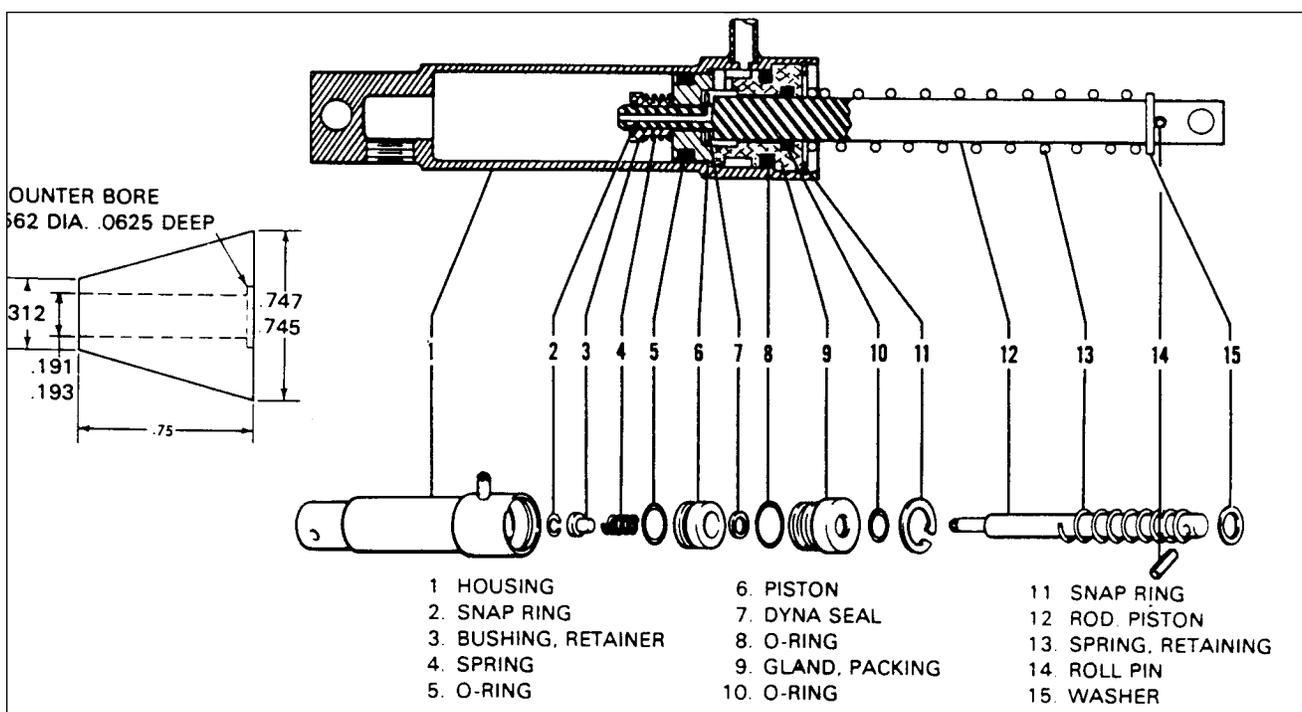

Figure 32-14. Brake Master Cylinder (Hand/Parking Brake)
1. Install new O-ring on inside and outside of packing gland and on outside of piston. (When installing teflon O-ring on piston, it is recommended that it be installed with use of a cone placed against piston. Construct cone of plastic or metal with dimensions shown in figure 32-14.
**INSTALLATION OF BRAKE CYLINDER (TOE BRAKE) (figure 32-14)**